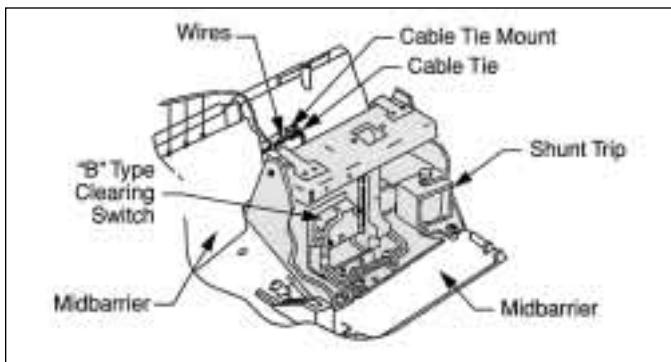

Figure 5. Location of Cable Tie Mounts and Cable Tie
9. Add cable tie mounts and cable tie as directed in accessory instructions (Figure 5).